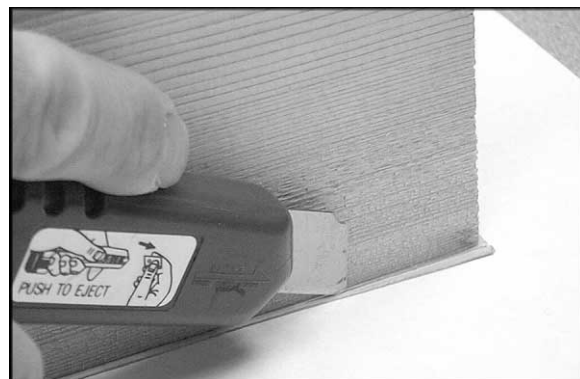

Figure 16
18. A sharp knife (not provided), as shown in Figure 16, is an alternative method for trimming the excess banding material. The excess may also be sanded off in some cases.